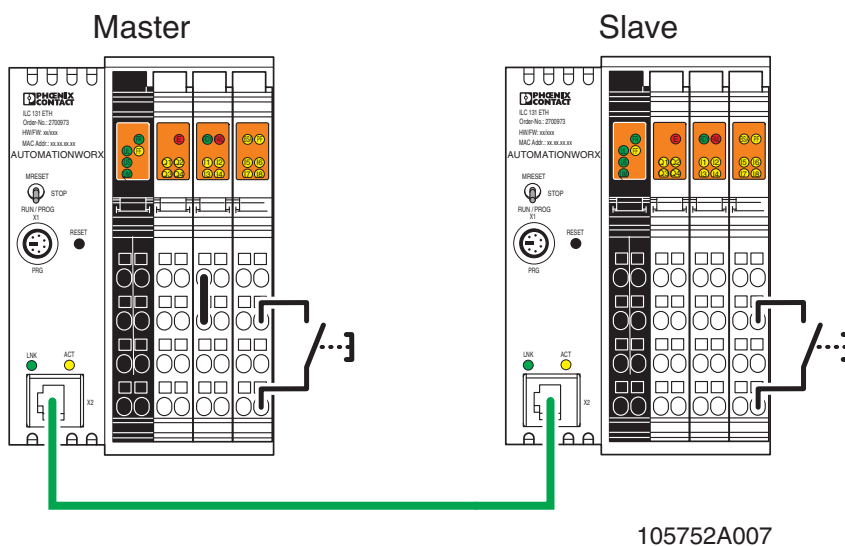

Figure 3-9 Applying a 24 V DC pulse to input I8 of the Inline controllers
- Apply a 24 V DC pulse to input I8 of each Inline controller, as shown in Figure 3-9.